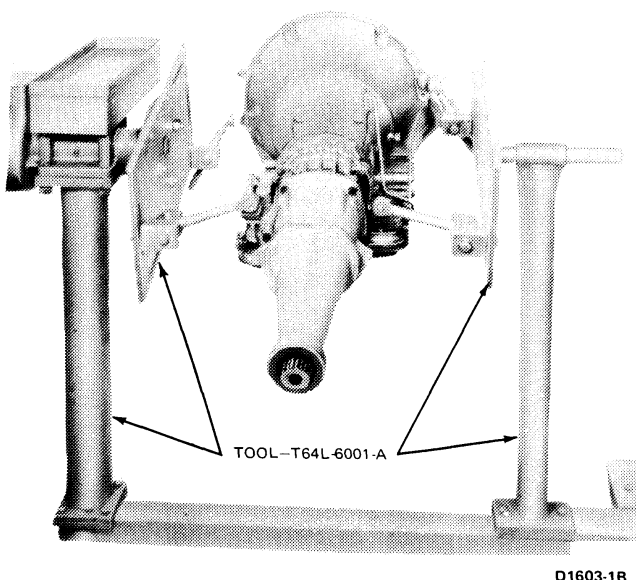

FIG. 11 Transmission Mounted in Holding Fixture
1. Mount the transmission in holding fixture T64L-6001-A, (Fig. 11).